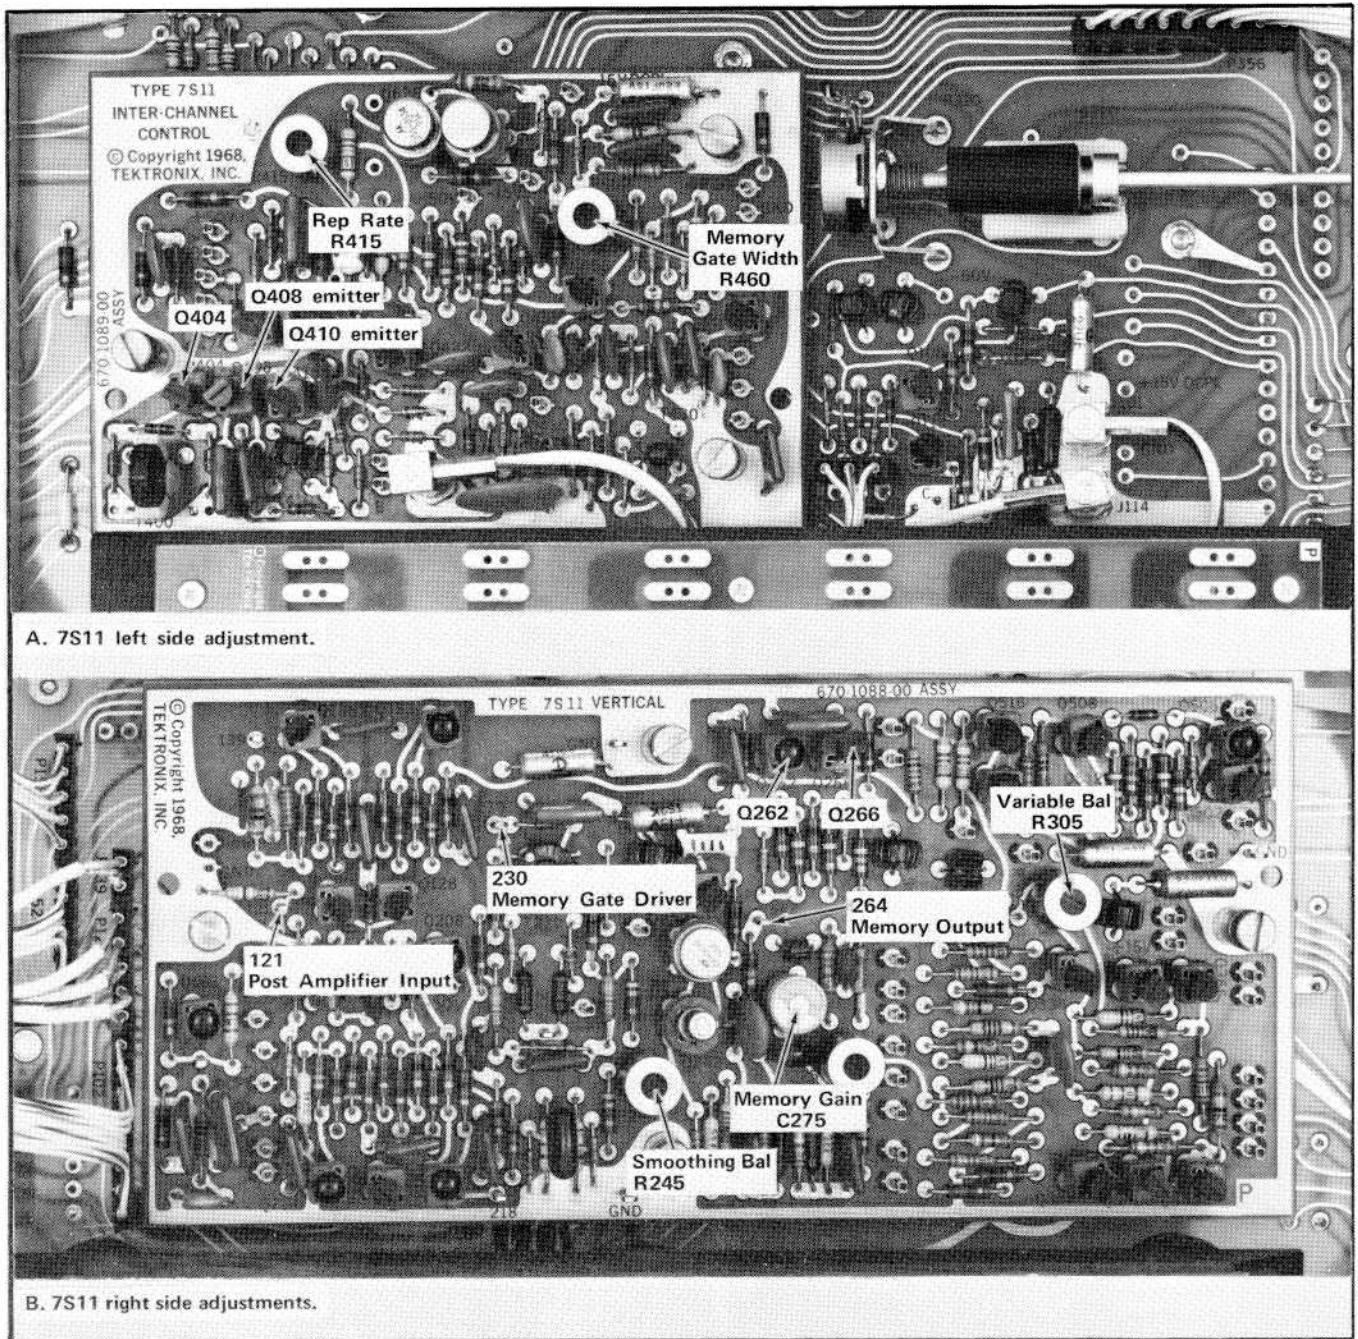

Fig. 6-7. Test points and adjustments, steps 4 through 13.
d. Adjust the Memory Gate Width control, R460, for maximum vertical separation between traces. See Fig. 6-7 for control location.
5. Adjust Memory Gate Width (R460) and Memory Gain (C275) With Sampling Head ①
e. Connect the 7A13 10X probe to test point 230, the Memory Gate Driver, see Fig. 6-7.
g. Adjust the Memory Gate Width control R460, Fig. 6-7, for a Memory Gate between 160 ns and 180 ns wide at the 50% amplitude level.
h. Connect the 7A13 10X probe to test point 121, the Post Amplifier Input, see Fig. 6-7, and use a short ground lead (Tektronix Part No. 175-0249-00) to minimize ringing. Set the 7A13 Volts/Div switch to 10 mV.
j. Remove Q404, see Fig. 6-7, and obtain a stable, double-triggered display in such a manner that there are two, most defined, waveform traces, one positive and one negative, as shown in Fig. 6-8C. If not, change the real-time oscillator frequency by adjusting R415.
m. Adjust the Memory Gain control C275, see Fig. 6-7, for 5 divisions separation (2.5 divisions if not a Type S-1), similar to Fig. 6-8A.
a. Remove Q262 and Q266, then short test point 264 to ground with a patch cord. See Fig. 6-7.
c. Adjust Variable Bal control R305 for minimum trace shift as the VARIABLE control is rotated throughout its range. See Fig. 6-7 for location of control.
b. Connect the 7A13 10X probe to test point 230, see Fig. 6-7.
d. Adjust Rep Rate control R415 for a period between $19 \mu\text{s}$ and $23 \mu\text{s}$. See Fig. 6-7 for location. See NOTE in Real Time Sampling on page 2-7 regarding this adjustment for Type S-5 Sampling Head use.